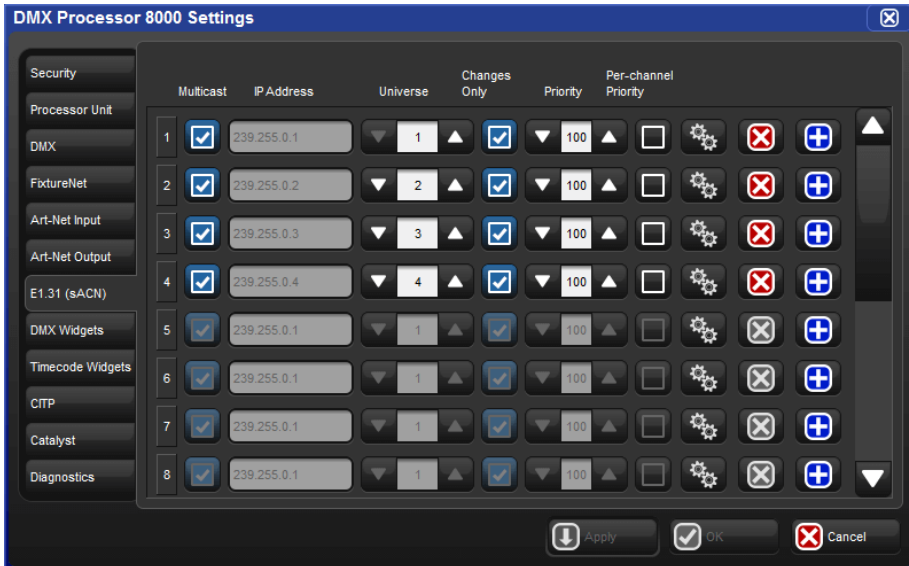

Figure 3.11. E1.31 pane of the DMX Processor Settings window
3. Select the E1.31 pane of the DMX Processor Settings window, see Figure 3.11, "E1.31 pane of the DMX Processor Settings window".